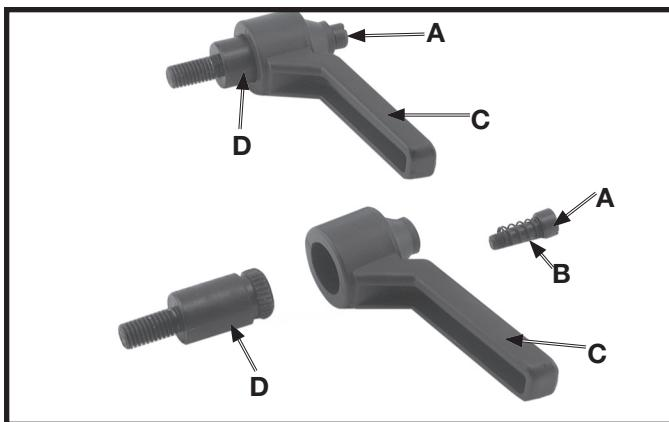

Fig. 13
- Two clamp handles are supplied with your machine, one for the belt sander table and one for the disc sander table. Disassemble both handles by unscrewing and removing screw (A), spring (B), and handle (C) from locking stud (D), as shown in Fig. 13.